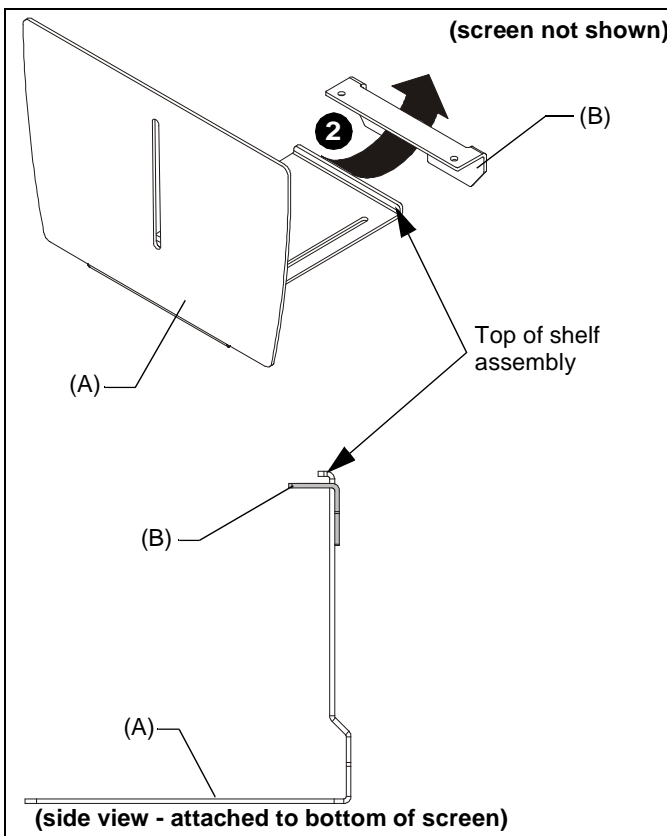

Figure 2
2. Slide shelf assembly (A) into attach bracket (B), ensuring that bend in shelf assembly slides into attach bracket slot. (See Figure 2)